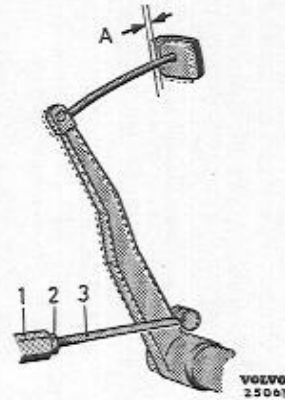

Fig. 31. Adjusting free travel.
The brake pedal free travel is set by adjusting the length of the link-rod (3, Fig. 31). Slacken the lock nut (2) and turn the thrust-rod (1) until the pedal has a free travel of 7—12 mm ($\frac{9}{32}$ — $\frac{15}{32}$ " (measurement A). Tighten the lock nut.